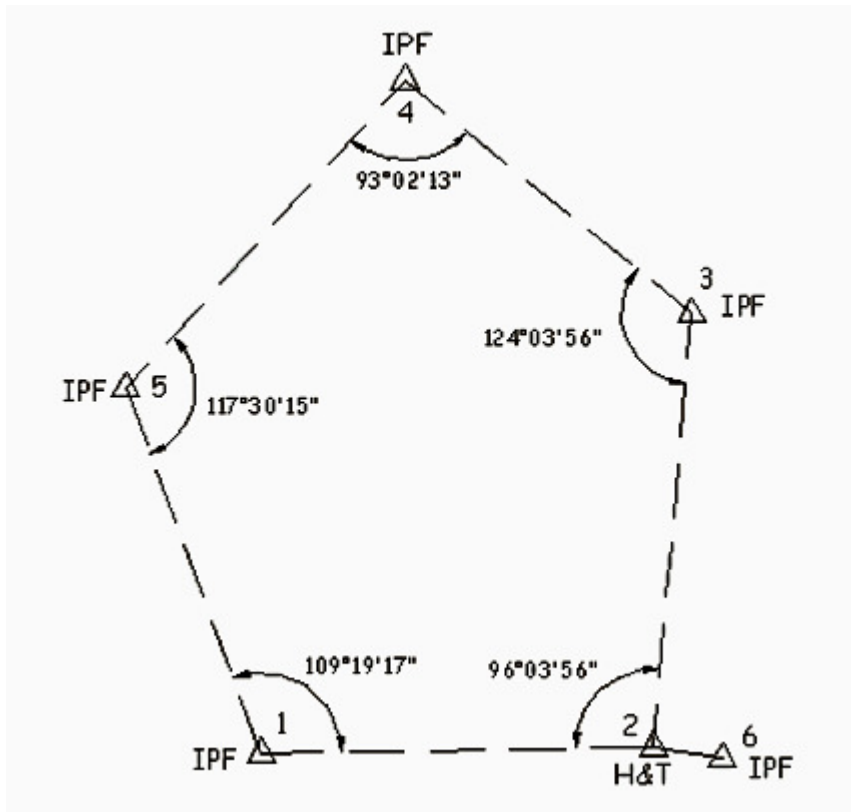

Figure 1 - Closed Loop Traverse.
- Figures 1, 2, 3 and 4 show illustrations of each of these traverse types. Below each illustration you will also see the accompanying raw data as seen in the **CGEditor**.